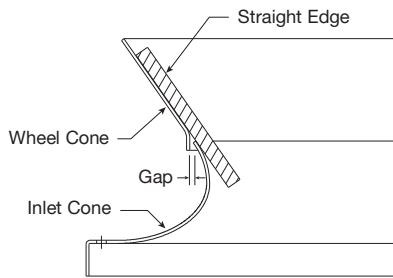

Figure 1
1. Rotate the fan wheel by hand and assure no parts are rubbing. The wheel should rotate freely and be aligned as shown in Figure 1. Wheel position is preset and the unit is tested at the factory.
Alignment - If necessary, adjust wheel position by loosening the wheel hub (see Tapered Bushing Installation and Removal on page 10) from the fan shaft so that a straight edge held tight to the wheel cone just touches the inlet cone. Refer to Figure 1.